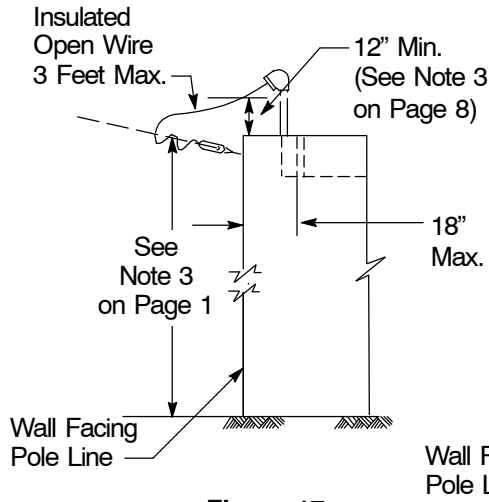

Figure 17
3. Basic clearance for 0 – 750 V service drop conductors above eave, roof, or parapet wall of building served is 8' 0" minimum. However, the clearance of the insulated open wire service conductors (drip loops) above eave, roof, or parapet wall of building served may be reduced to 12" minimum provided the service head is located not more than 18" back from the outer edge of said eave, roof, or parapet wall (see Figure 16 on Page 8 and Figure 17 on Page 9).